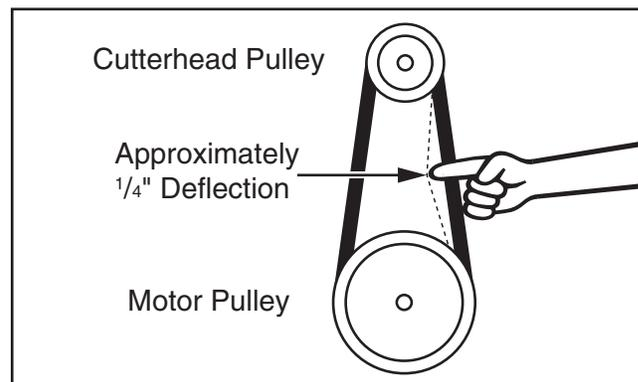

Figure 58. Correct belt deflection when properly tensioned.
5. Press belt with moderate pressure in center to check belt tension. Belt is correctly tensioned when there is approximately $\frac{1}{4}$ " deflection when pushed, as shown in **Figure 58**.